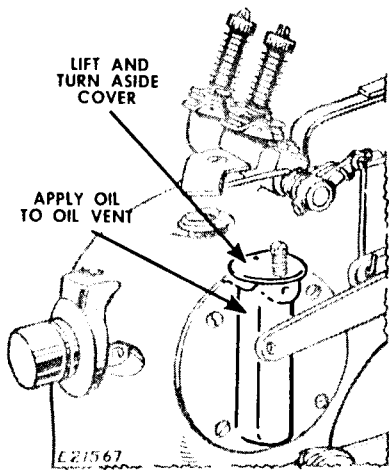
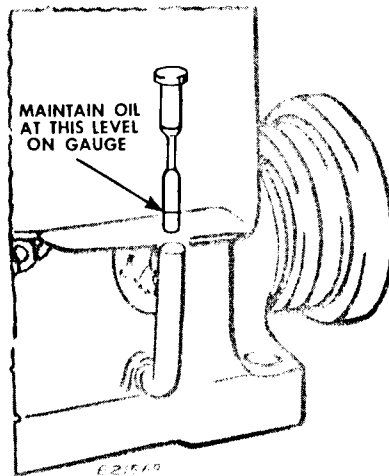

Fig. 2
Fig. 3
**CAUTION:**—The cover over the oil vent in Fig. 2, must be kept closed at all times, except when oiling.
Never permit oil level to drop more than 1/4 inch below level indicated in Fig. 3, on gauge, when the machine is at rest.
**IMPORTANT:**—After oil has been applied to all wicks, oil holes and places where parts are in movable contact, as instructed in Figs. 2 to 10, run the machine at moderate speed for five minutes. Stop the machine. Let it stand idle for a few minutes. Check oil level in reservoir. If necessary, add sufficient oil to bring it to level indicated in Fig. 3, on gauge.
3. Check oil level in reservoir and add oil through oil vent, when necessary, as instructed in Figs. 2 and 3, page 4.